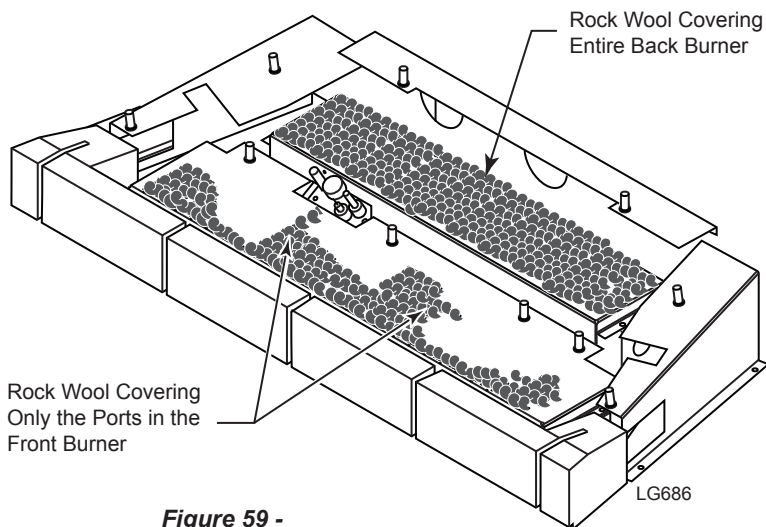

**Figure 58 -
2. Put left and right brick pieces together as shown in *Figure 58*.
3. Match two (2) firebox tabs with two (2) slots on bottom of brick. *Figure 58*